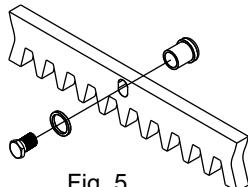

Fig. 5
5.2. Fix to each gear rack element the support pawls using the appropriate lock screws, taking care to place them in the upper part of the hole (Fig. 5) :